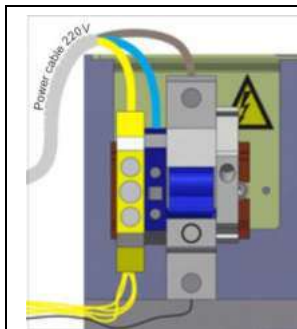

Fig. 20 – Connection of power supply cable
a) Power supply cable ~230 V to be connected (Fig. 20):
- Phase (L) - to be connected to circuit breaker;
- Neutral (N) to be connected to terminal ~230V;
- Earth (PE) to be connected to earthing terminal (PE).